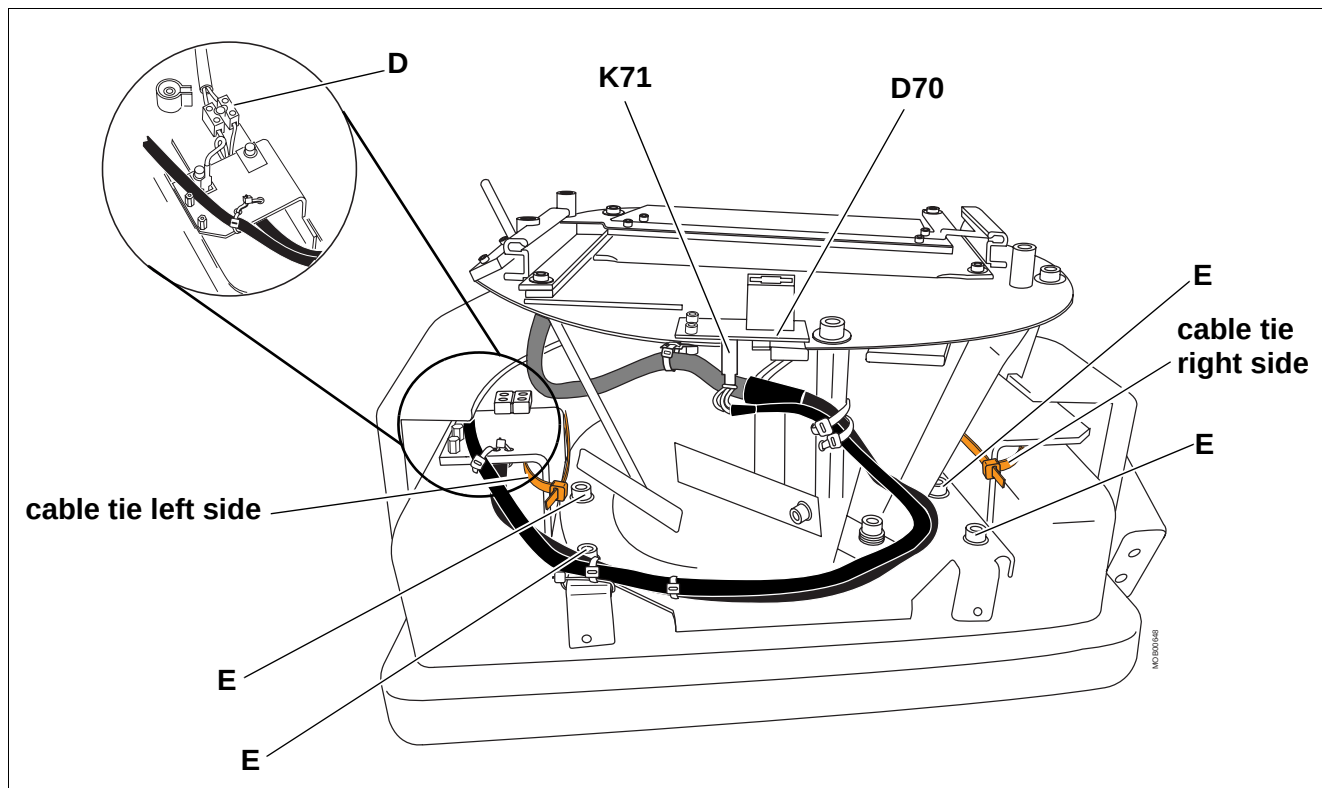
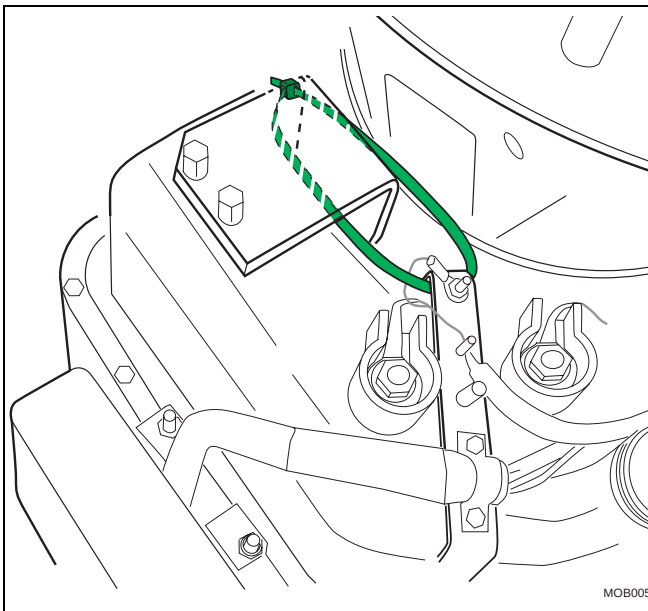
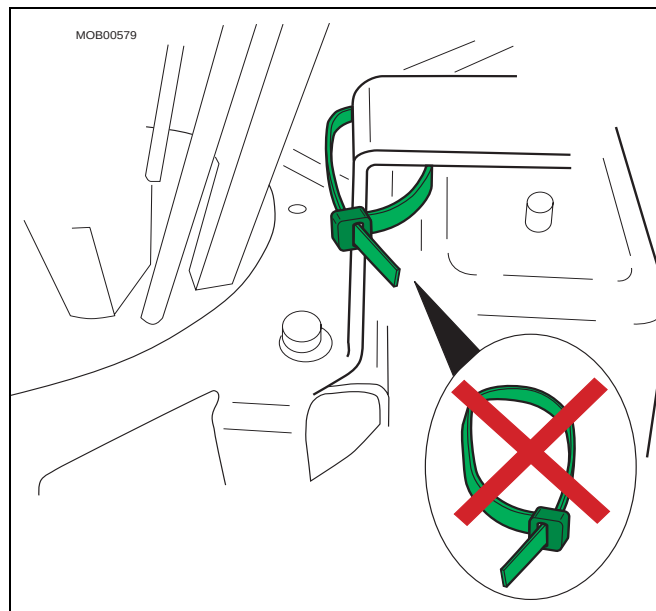

Fig. 8
Fig. 10
Fig. 11
- Disconnect the cable to the connection terminal board "D" (Fig. 8).
- Disconnect K71 from board D70 (Fig. 8).
- Remove the cable ties on the left and the right side (Fig. 8).
- Remove the collimator by loosening the four screws "E" (Fig. 8). Reserve the hardware.
- Replace the cable ties (Fig. 8). The cable ties have to be mounted exactly as shown in Fig. 8, Fig. 10 and Fig. 11. The cable ties should not be tightened hard. Fig. 10 and Fig. 11 show how the cable tie on the right side is mounted. Repeat for the left side, but with the cable tie mirror-inverted.
- Reconnect K71 to board D70 (Fig. 8).